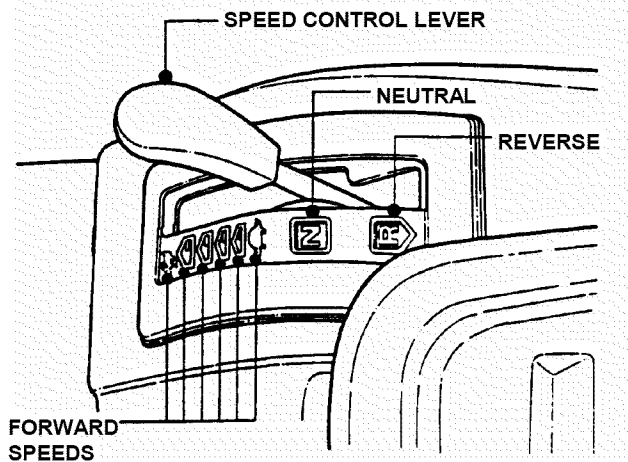

FIGURE 4.11
5. Move the speed control lever until it is in direct relation to the neutral "N" position on quadrant. See Figure 4.11.